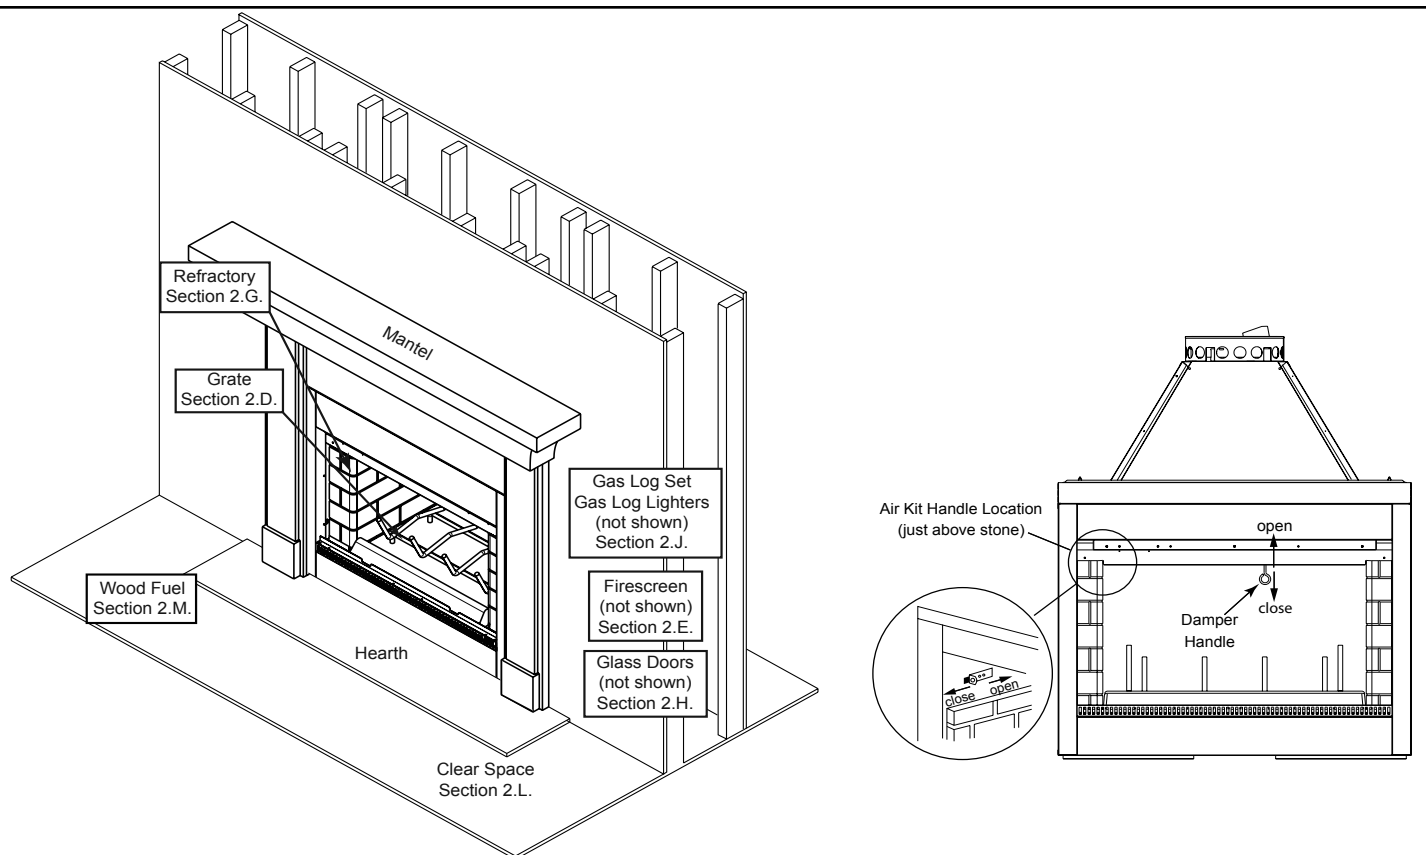

Figure 2.1 General Operating Parts
- Refer to Figure 2.1 for location of control.
- Refer to Figure 2.1 for location of control